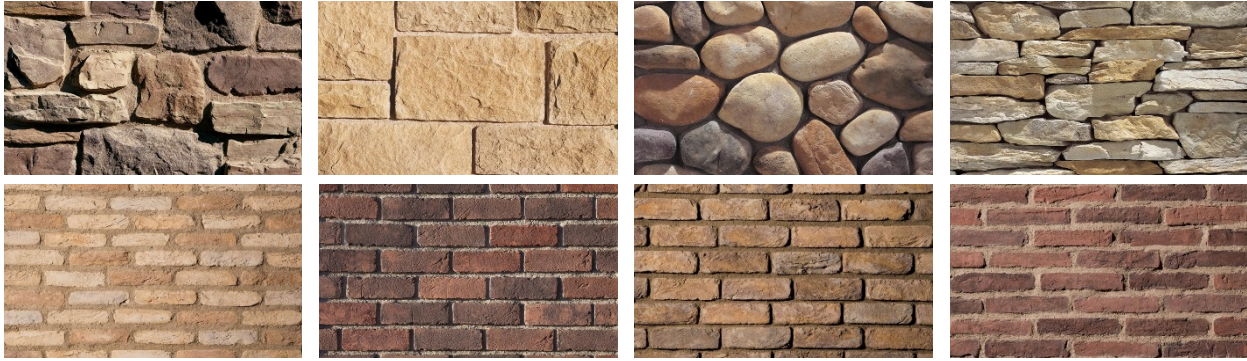

FIGURE 1. EXAMPLES OF BORAL STONE PRODUCT FINISHES
- 4.2.1 Color and texture similar to various stone or brick surfaces. Examples are shown in Figure 1.